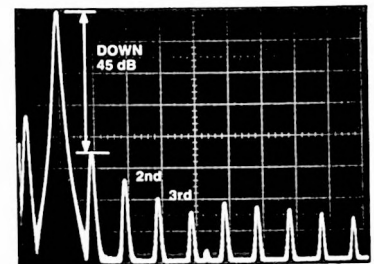

Fig. 21. Typical Harmonic Distortion Measurement
- The difference between the fundamental and the harmonics is measured in dB as shown in figure 21. These numbers may be converted to percentage of distortion using the chart in figure 23. Record the results in a chart like the one shown in figure 24.